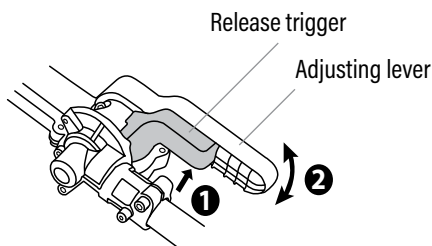

Fig. 5A
1. Press the release trigger (Fig. 5A, 1) down and rotate the adjusting lever (Fig. 5A, 2) to adjust the blade to the desired cutting position as required.